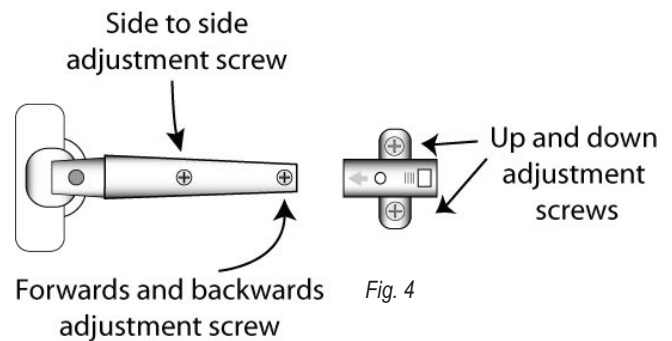

Fig. 3
5. Attach the hinge plates to each side partition by fastening the pre-mounted screws into the holes you drilled in step 2. Ensure the arrow next to the empty screw hole is pointed towards the door. (See Fig. 3.)
7. For normal installation of hinges, fasten the hinge to the hinge plate. To do so, hold the door with hinges attached so that the hooks on the **back** of each hinge latch onto the front leading edge of the mounted plate (where the arrow is). Squeeze the two hinge pieces until they snap together (see Fig. 3 close up).